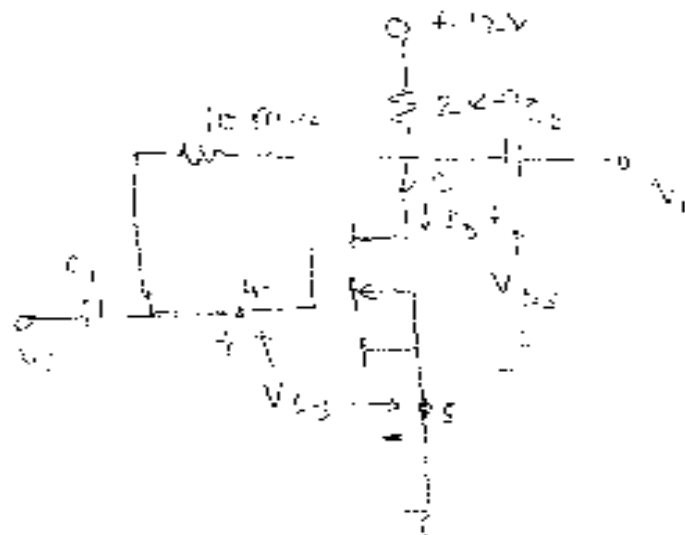

Figure 3
b) For the given circuit in figure 3